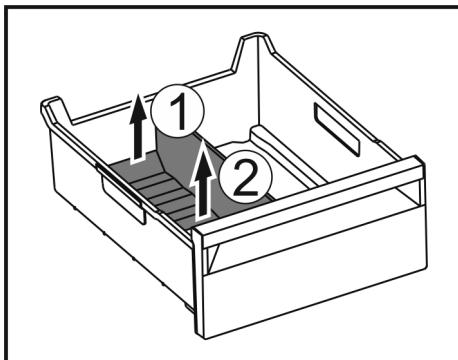

Fig. 149
- ▶ Lift the rear part of the ice compartment divider. Fig. 149 (1)
- ▶ Remove the ice compartment divider upwards. Fig. 149 (2)